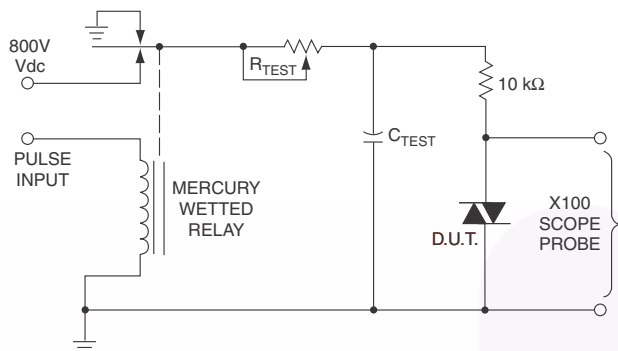

Figure 11. Static dv/dt Test Circuit
| $dv/dt$           | Critical Rate of Rise of Off-State Voltage | $I_F = 0$ (Figure 11) (2)              | 600  | 1500  |      | V/ $\mu\text{s}$ |
- This is static  $dv/dt$ . See Figure 11 for test circuit. Commutating  $dv/dt$  is a function of the load-driving thyristor(s) only.